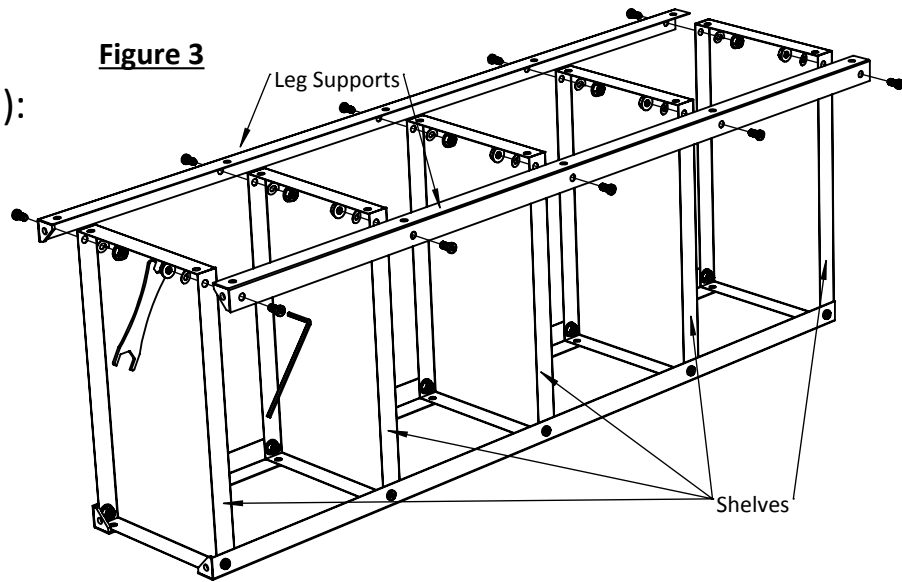

Figure 4
10. Attach a Wheel and a Large Spring Washer to the bottom of the Leg Support. **Figure 4**